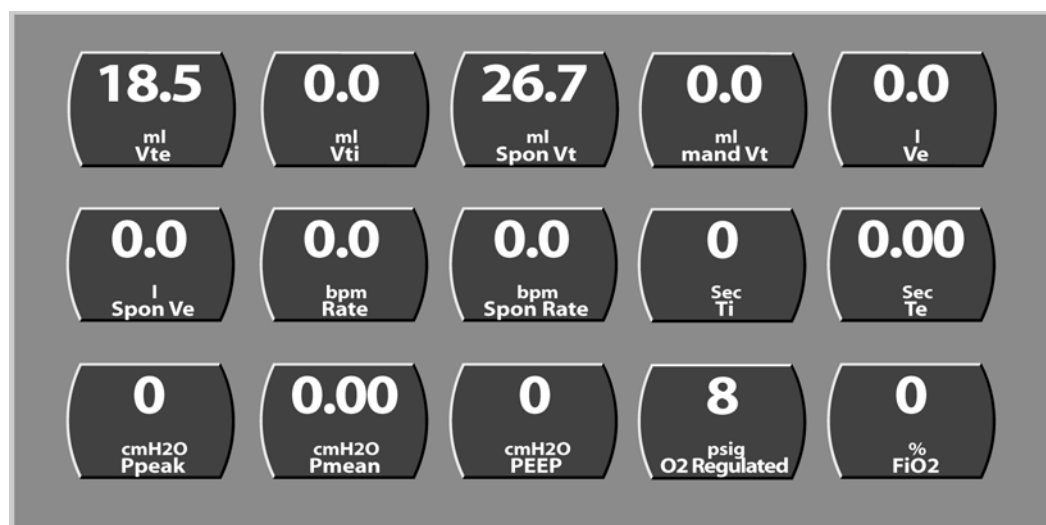

Figure 4.7 The Monitor Screen
2. The Screen Select box displays, see figure 4.7.